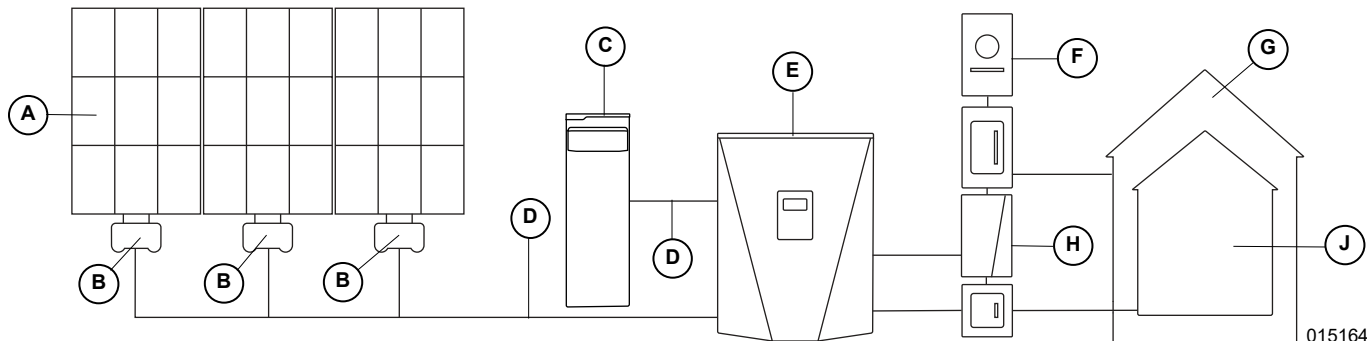

Figure 2-3. Generac PWRcell System Example
PWRcell Inverter uses the REbus™ 380 VDC nanogrid to connect DC-coupled PWRcell devices. The REbus nanogrid automates and regulates the flow of power to enable plug-and-play setup and operation of PWRcell equipment. For more information about REbus, visit www.generac.com. In Figure 2-3, the PWRcell Inverter (E) is directly connected to PV Link optimizers (B) and PWRcell Battery (C) on DC (REbus) lines (D). To the right of the inverter are AC lines for the Grid (F), home loads (G), PWRcell ATS (H), and backup loads (J).